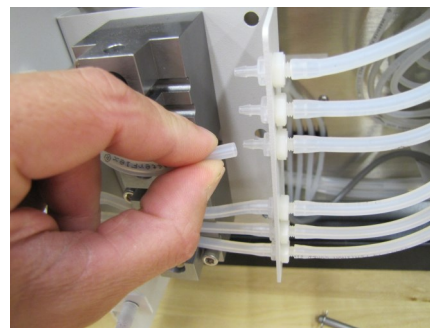

Figure 9
7. Replace the 6 Silicone Tubes in each valve, connecting each to the barbed fittings on the left and right side of the Pinch Valve Bracket as depicted in Figure 9.